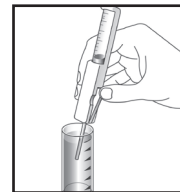

Figure 6
6. Hold the Titrettor with the sample pipe in the sample. Press the control bar firmly, but briefly, to pull in a small amount of sample (fig. 6). The contents will turn **BLUE to VERY DARK BLUE** (black). Wait 30 seconds.
7. Press the control bar again to draw another small amount of sample into the ampoule (fig. 6).